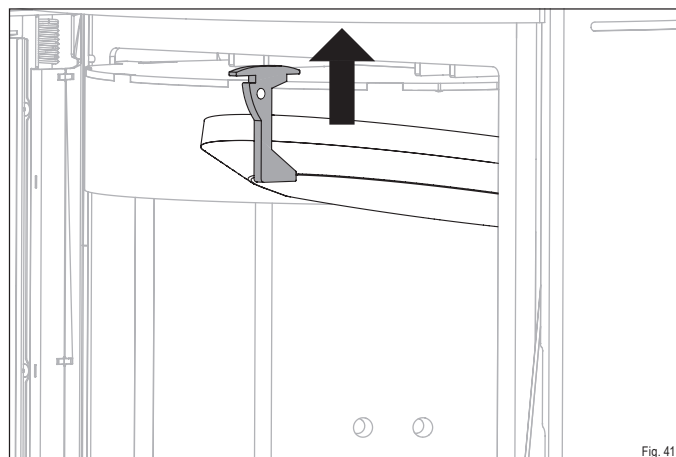

Fig. 41
- ▶ Slide the firebrick retainer upward (Fig. 41).